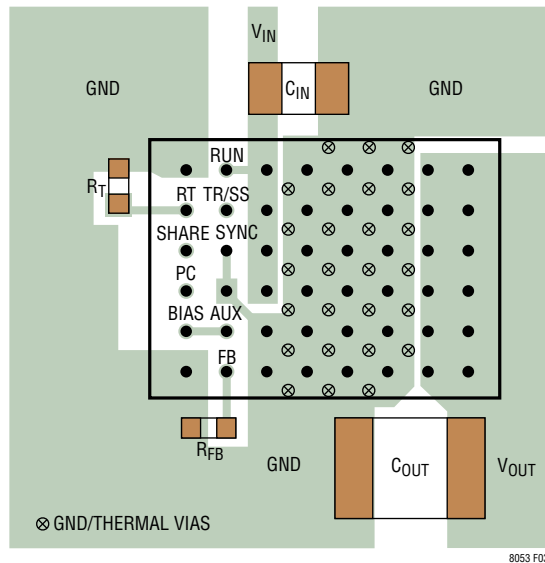

Figure 3. Layout Showing Suggested External Components, GND Plane and Thermal Vias
Most of the headaches associated with PCB layout have been alleviated or even eliminated by the high level of integration of the LTM8053/LTM8053-1. The LTM8053/LTM8053-1 is nevertheless a switching power supply, and care must be taken to minimize EMI and ensure proper operation. Even with the high level of integration, you may fail to achieve specified operation with a haphazard or poor layout. See Figure 3 for a suggested layout. Ensure that the grounding and heat sinking are acceptable.
6. Use vias to connect the GND copper area to the board's internal ground planes. Liberally distribute these GND vias to provide both a good ground connection and thermal path to the internal planes of the printed circuit board. Pay attention to the location and density of the thermal vias in Figure 3. The LTM8053/LTM8053-1 can benefit from the heat-sinking afforded by vias that connect to internal GND planes at these locations, due to their proximity to internal power handling components. The optimum number of thermal vias depends upon the printed circuit board design. For example, a board might use very small via holes. It should employ more thermal vias than a board that uses larger holes.